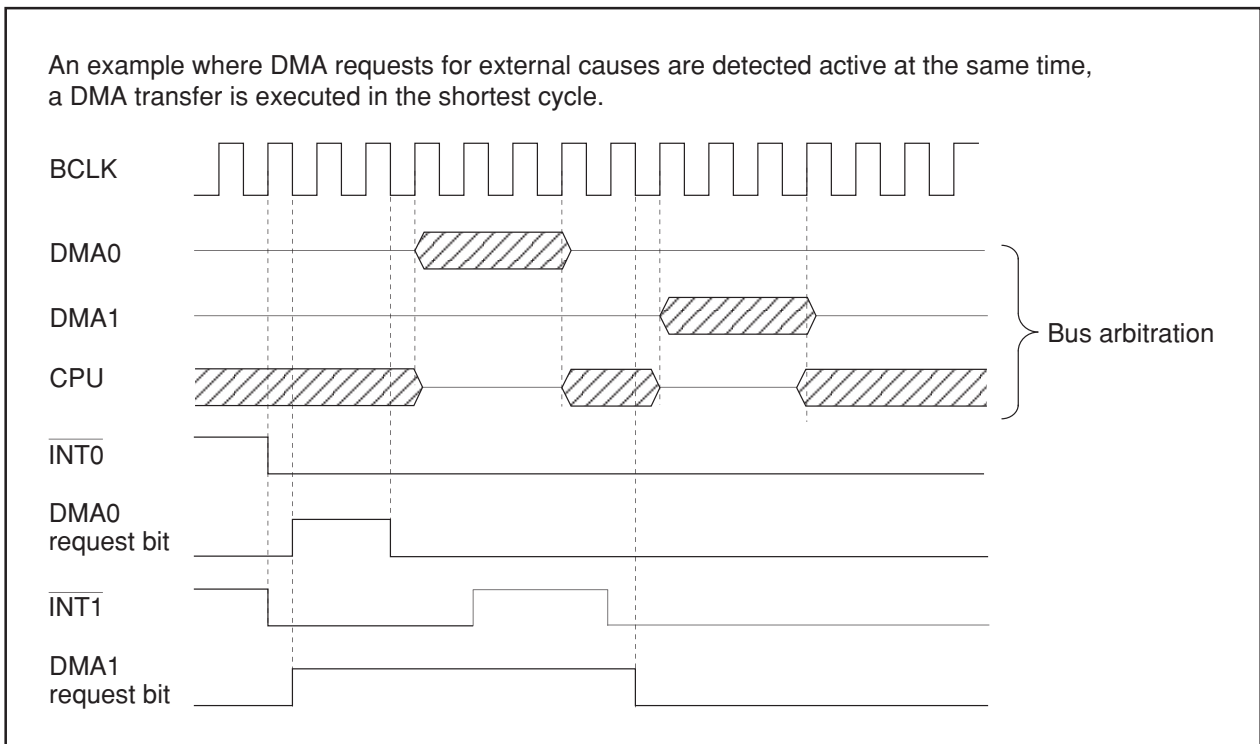

Figure 1.12.6 DMA Transfer by External Factors
Figure 1.12.6 shows an example of DMA transfer effected by external factors.
In Figure 1.12.6, DMA0 request having priority is received first to start a transfer when a DMA0 request and DMA1 request are generated simultaneously. After one DMA0 transfer is completed, a bus arbitration is returned to the CPU. When the CPU has completed one bus access, a DMA1 transfer starts. After one DMA1 transfer is completed, the bus arbitration is again returned to the CPU.
In addition, DMA requests cannot be counted up since each channel has one DMAS bit. Therefore, when DMA requests, as DMA1 in Figure 1.12.6, occurs more than one time, the DMAS bit is set to "0" as soon as getting the bus arbitration. The bus arbitration is returned to the CPU when one transfer is completed. Refer to "(7) HOLD Signal in Bus Control" for details about bus arbitration between the CPU and DMA.